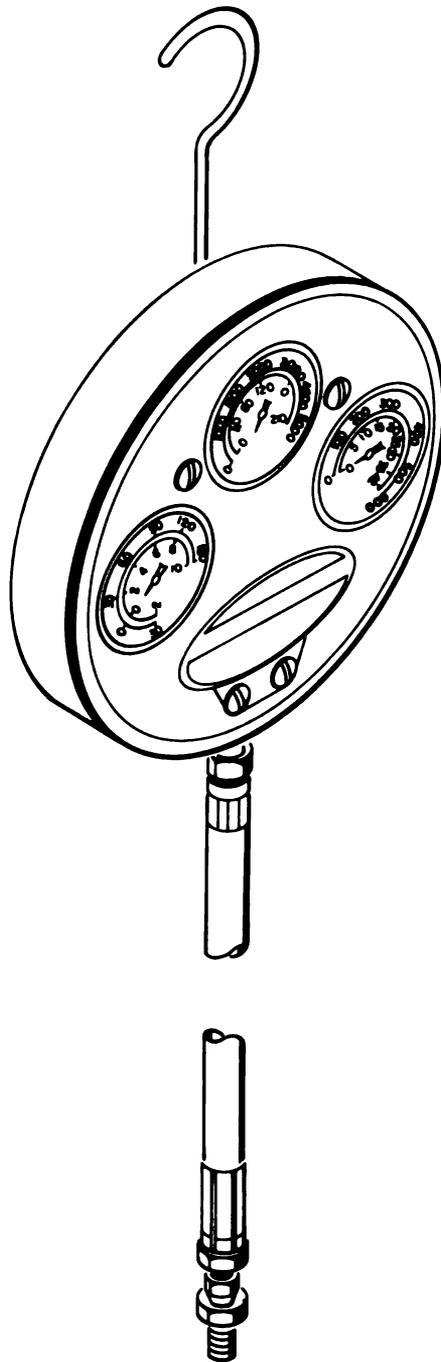

Figure 1-19. Multi-Range Pressure Gage.
d. *Multi-range Pressure Gage.* In many cases a hydraulic malfunction can be isolated by accurate pressure measurement. High and low system pressures are usually measured during fault isolation. The multi-range pressure gage in the HSTRU has three gages contained in a single housing (figure 1-19). Each gage automatically shuts itself off if the pressure exceeds its measuring capability. This protects the low pressure gages from excessive pressure. The system also has a vacuum measurement capability for measuring pump inlet pressure. The multi-range pressure gage has a range from 30 inches of Mercury (vacuum) to 5,000 PSI (pressure).